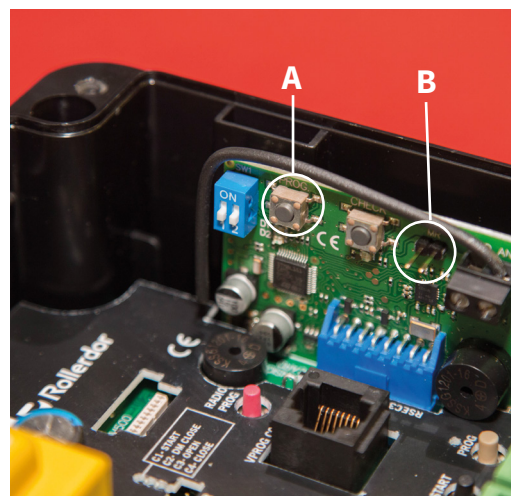

**fig.13**
- 1 Press and hold the “RADIO PROG” button (**fig.13**). You will hear a beep and the red LED alongside “C1” will illuminate.
- 2 Insert screwdriver between the 2 pin terminals on the board (MR) to bridge between them (**fig.13**).
- 3 Press and hold the “RADIO PROG” button (**fig.13**). The panel will beep 8 times and then go into 1 continuous beep. As soon as you hear this, release “RADIO PROG” button and then remove screwdriver from terminals and board will stop beeping.